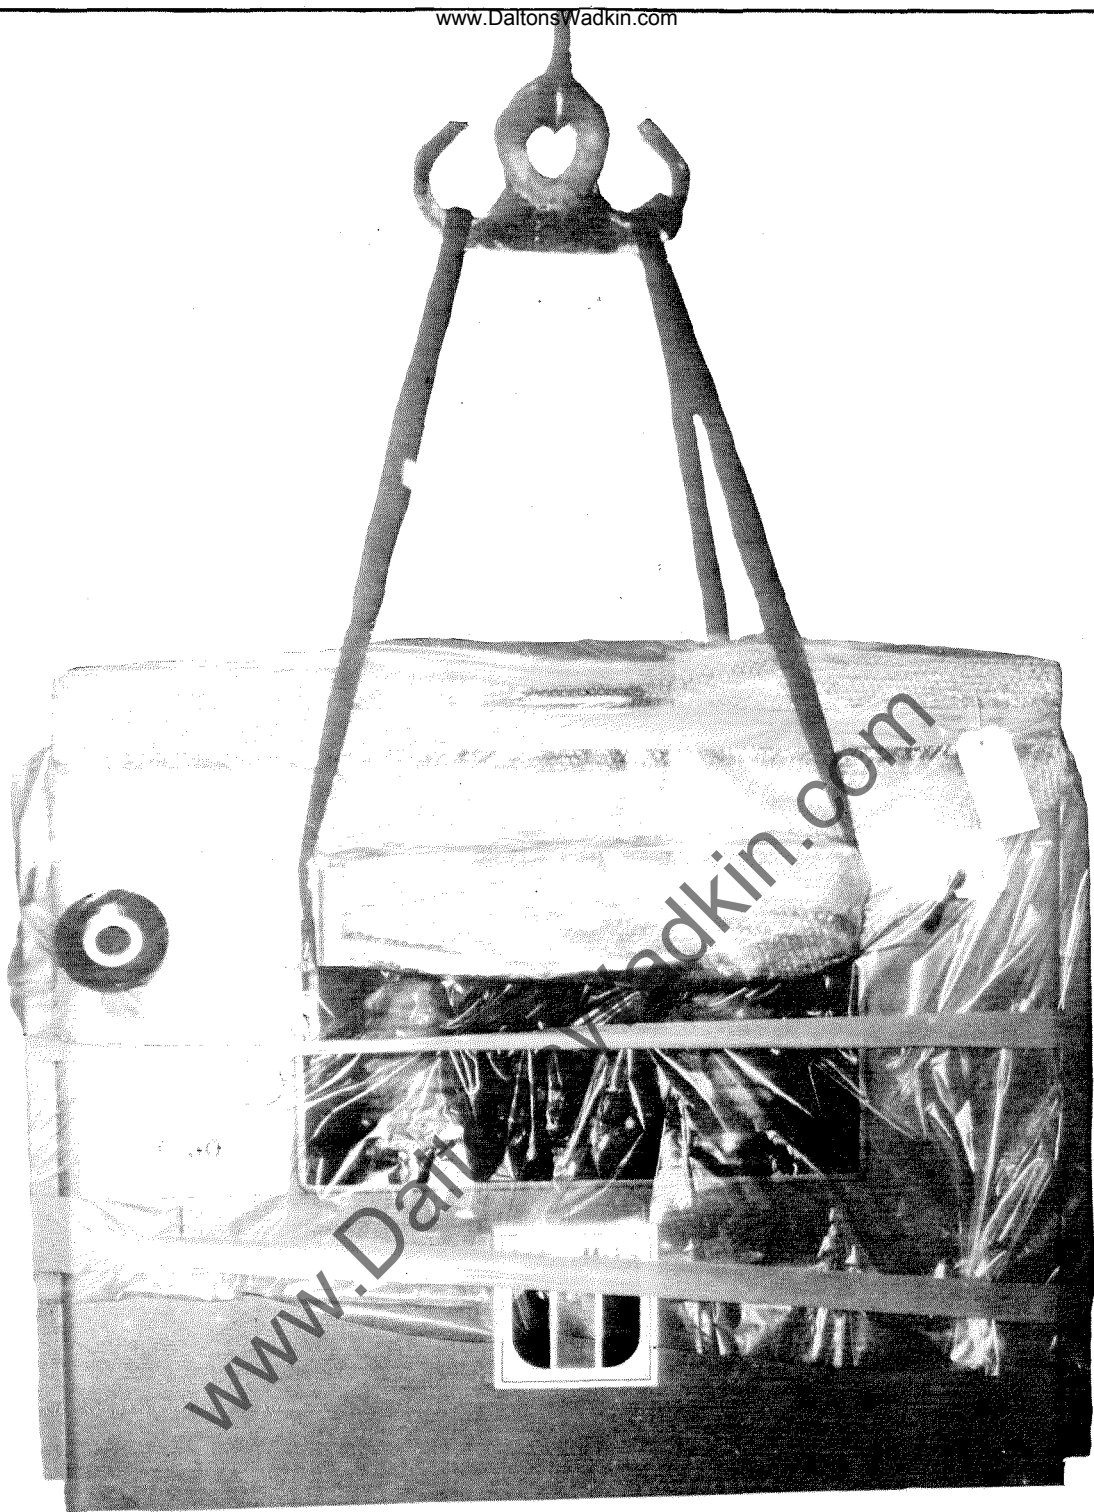

FIG. 5
- a) Carefully position sling under both sides of table as shown in FIG.5, ensuring damage will not be caused to machine or sling during slinging operation.